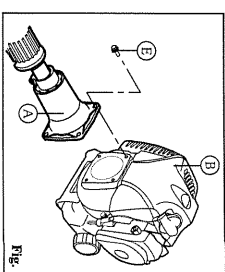

Fig. 1
1. Installation of the engine (Fig. 1)